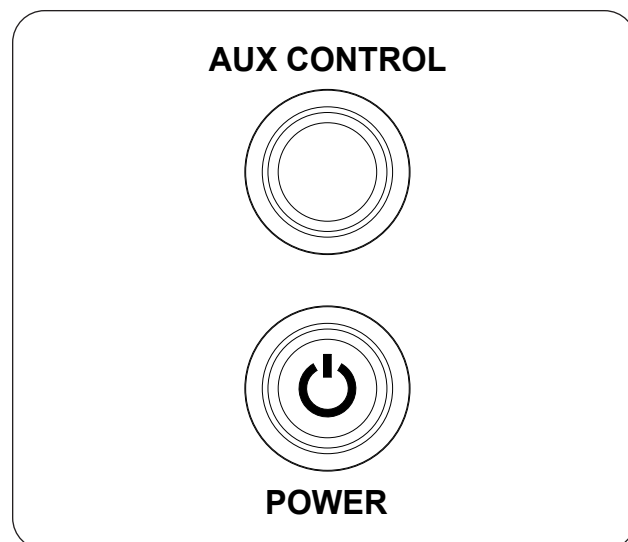

Fig. 37-1 Manual Operation:
1. Locate the **POWER** button on the control panel, and push it (see Fig. 37-1). The light will illuminate indicating the system is on and ready.
2. Locate the **AUX CONTROL** button on the control panel, and push it (see Fig. 37-1). The light will illuminate and the burner ignition sequence will begin.
To shut down the burner (system will remain on), push the **AUX CONTROL** button (see Fig. 37-1).
To shut down the burner and system (total shutdown), push the **POWER** button (see Fig. 37-1).